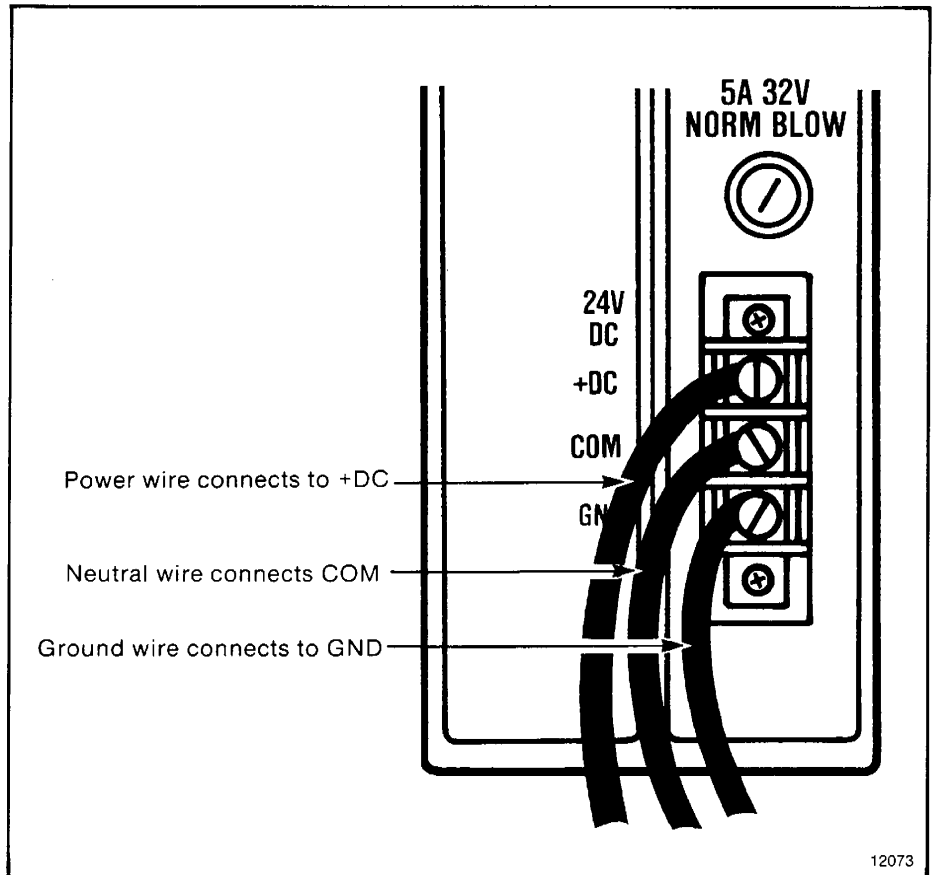

Figure 3.18 — Connect Your Power Cable to the DC Power Supply's Terminal Strip
Step 2 — Loosen each terminal screw and place the appropriate wire under it (figure 3.18).